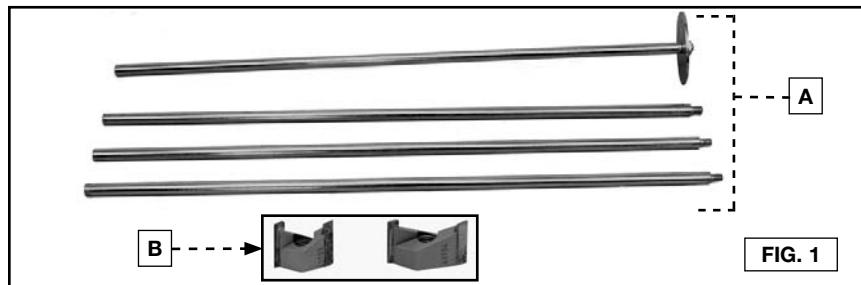

FIG. 1
Four sections of the height rod (A), and two mortise bits (B) are furnished (Fig. 1).